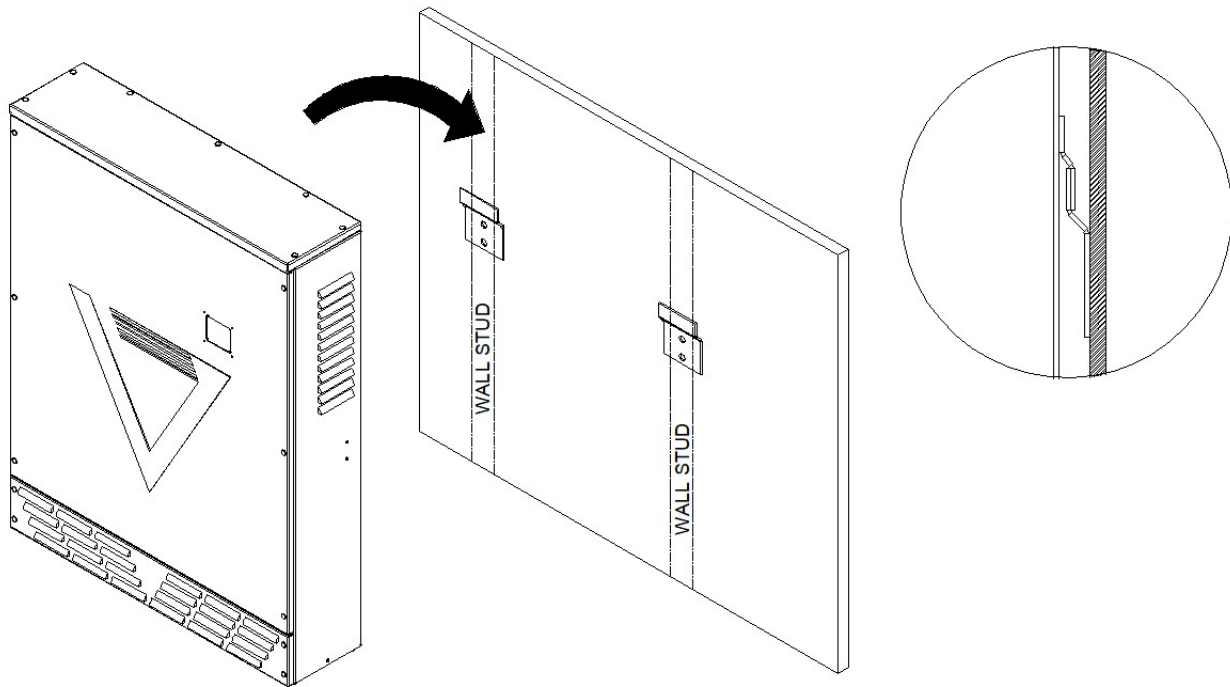

Figure 5
The NV14 Energy Storage System must be installed using the wall mounting brackets and hardware provided. The wall mounting brackets must be anchored to a minimum of two (2) vertical wall studs (See figure 5). 3/8" x 2-1/2" lag bolts with washers must be used to mount the wall mounting bracket to the vertical studs.